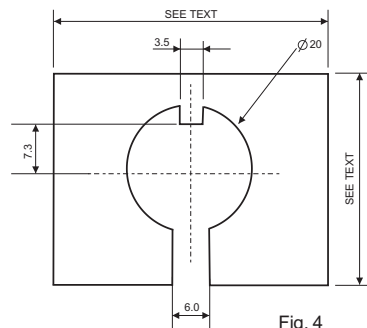

Fig. 4
3. A polarising plate can be made in order to prevent rotation of the sensor - an example design is given below (Fig. 4).